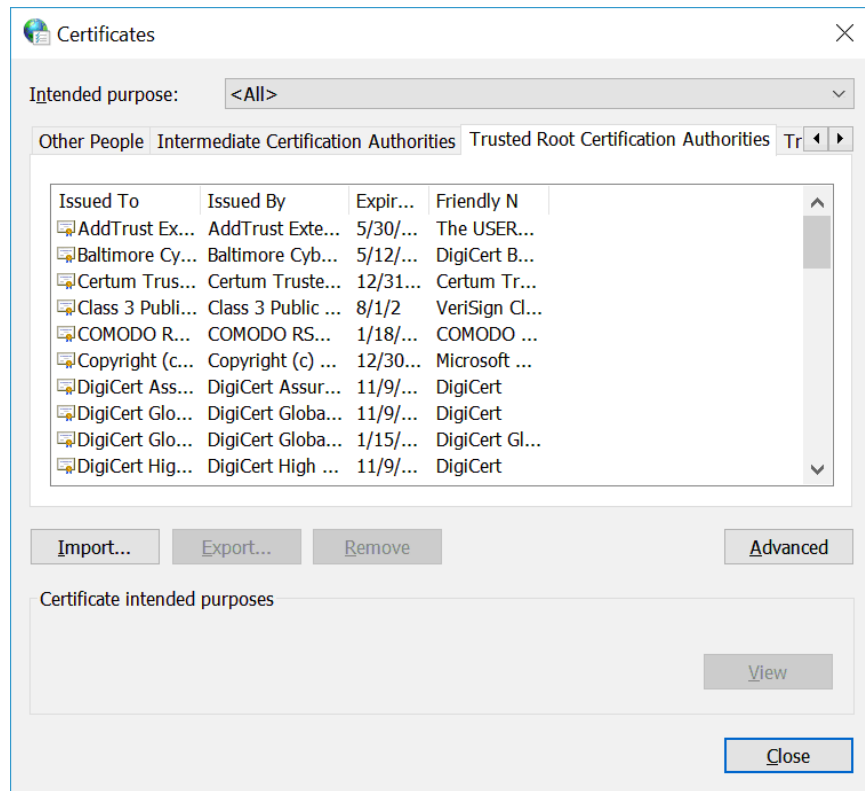

Figure 176: Certificates Screen
14. Click on the Certificates button. The Certificates screen displays. Click on the Trusted Root Certification Authorities tab, as shown in Figure 176.